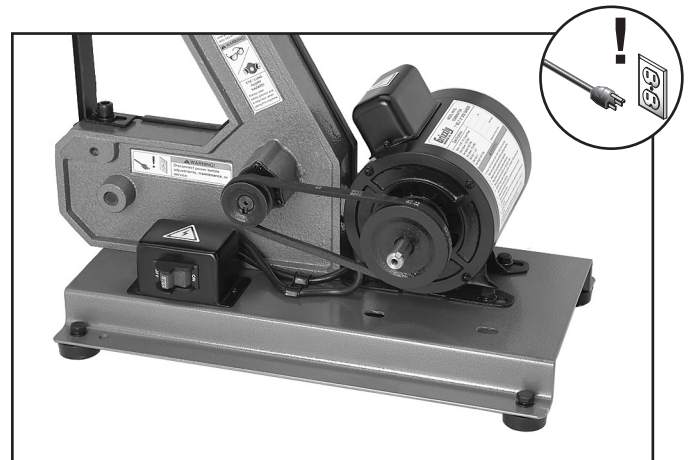

Figure 35. V-belt fully exposed.
3. Lay the sander on its back, loosen the two hex nuts securing the cast iron disc guard, and remove the disc guard (see **Figure 35**).